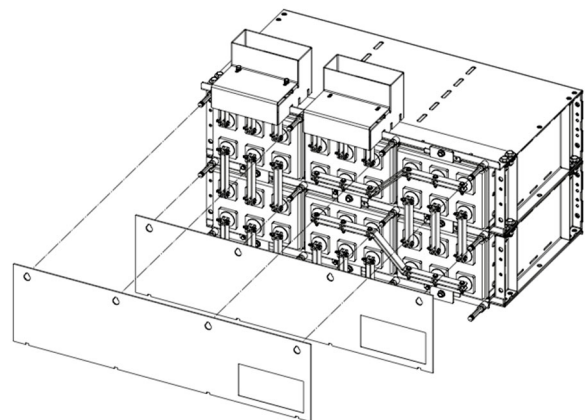

FIGURE 14
2. Starting with bottom row, hang safety shields on standoffs as shown in Figure 14.